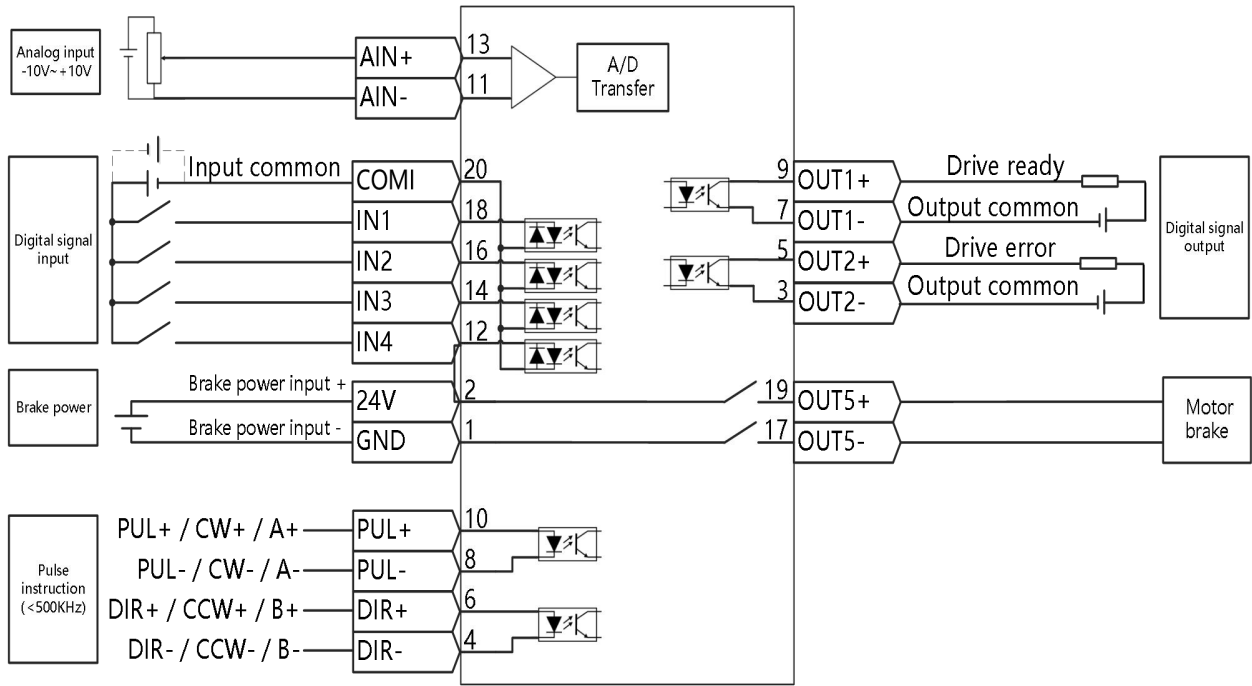

Fig. 3-3 Wiring Diagram of External I/O Outlet
- Fig. 3-3 Output outlet is NPN connection mode, while PNP connection mode is shown in Fig. 3-4.